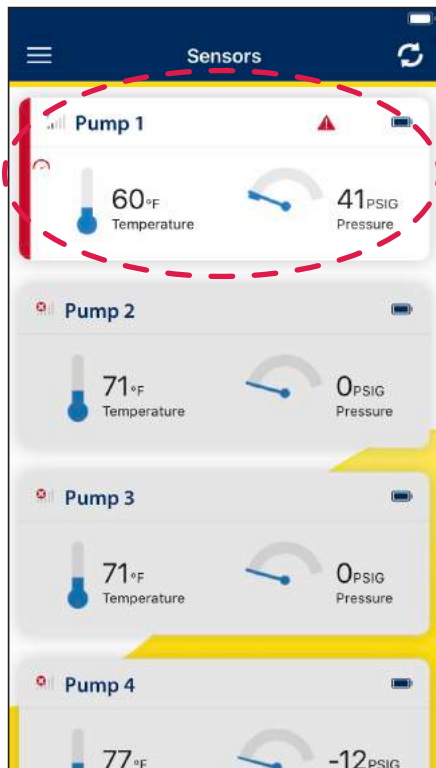

Figure 24
1. Choose the sensor you want to view the measured data from (see figure 24).